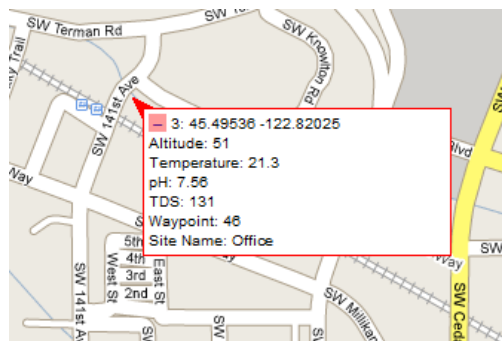

Figure 1 Water quality data in Google Maps
3. The default data-collection mode is Selected Events. In this mode, data will be collected on command rather than over time, making it easy to collect single points of data at specific sampling sites. See Figure 1 for sample results after mapping in Google™ Maps.
1. Mapping discrete points. Use this style for water quality or other environmental monitoring sites as shown in Figure 1.